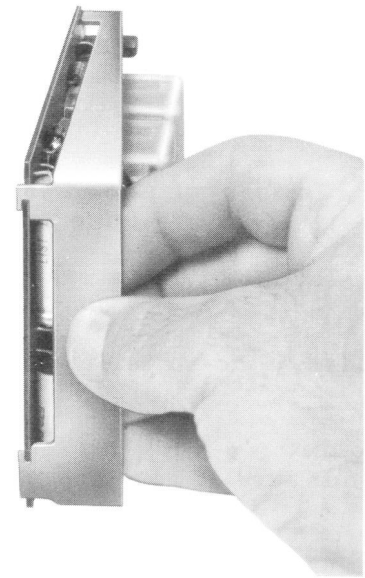

Fig. 2 - Method of Insertion
1.01 The 501- and 502-series key service units replace equivalent service feature 301- and 302-type key service units. They are designed primarily to receive miniature relay 1A2 key telephone system line circuit (400A KTU) and manual intercom (401 A KTU) plug-in printed circuit cards. This section is being reissued to correct Fig. 2.
2.03 Plug-in components should be fully seated in their receptacles to ensure reliable contact. Grasp card as shown in Fig. 2. Use a vertical rocking motion with enough force exerted to seat the card fully.